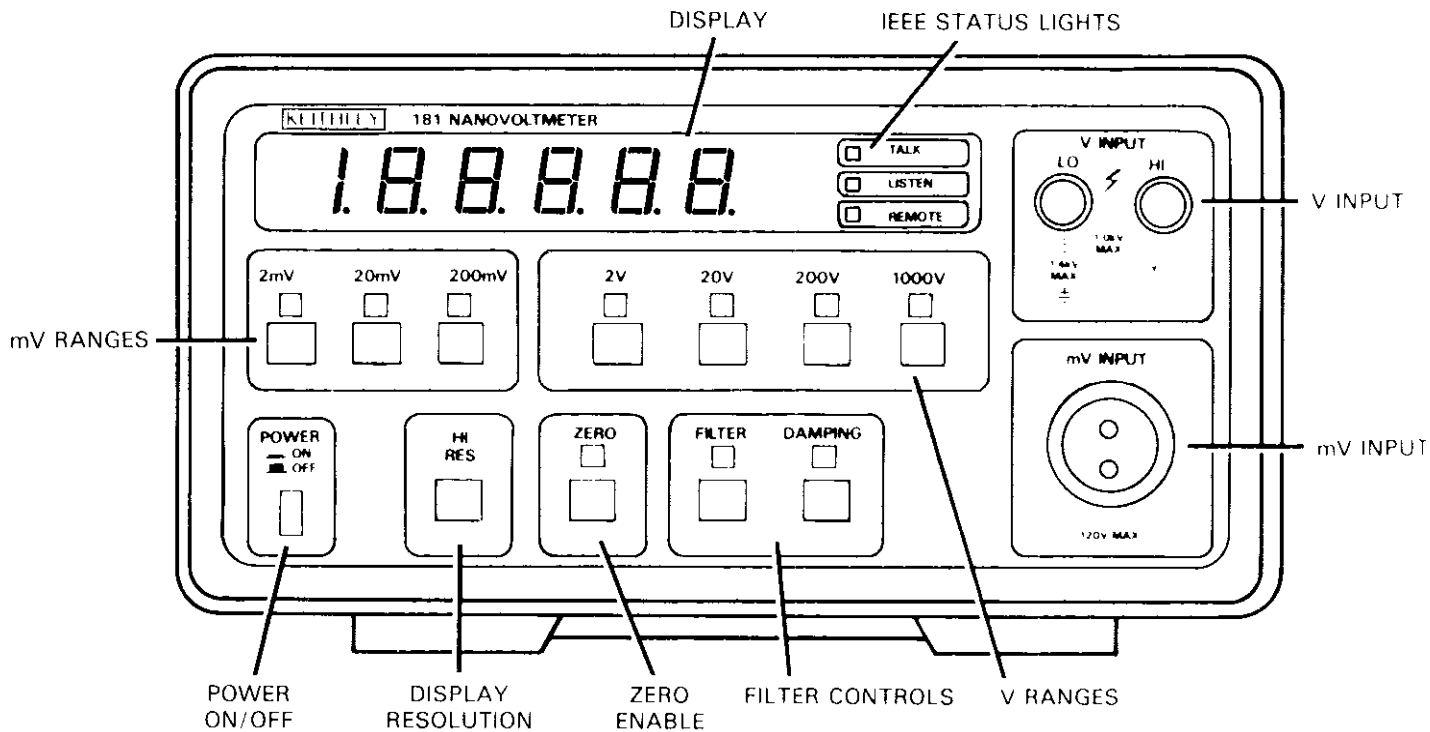

Figure 2-2. Front Panel Controls and Connections
1. Front Panel Controls. The front panel controls are shown in Figure 2-2. In addition to the power switch previously described, the Model 181 has a number of other front panel switches. The 2mV, 20mV, and 200mV switches are used to select one of the mV measurement ranges. The 2V, 20V, 200V, and 1000V switches are used to select one of the normal voltage ranges. The light above the selected range will turn on when the appropriate switch is depressed. Note that these switches may be superseded by IEEE commands as outlined in Section 4.
The Model 181 has additional front panel controls that can be used to enhance the capabilities of the unit. These switches which include HI RES, ZERO, FILTER, and DAMPING, are shown in Figure 2-2. The following paragraphs will describe the operation of these controls in more detail.